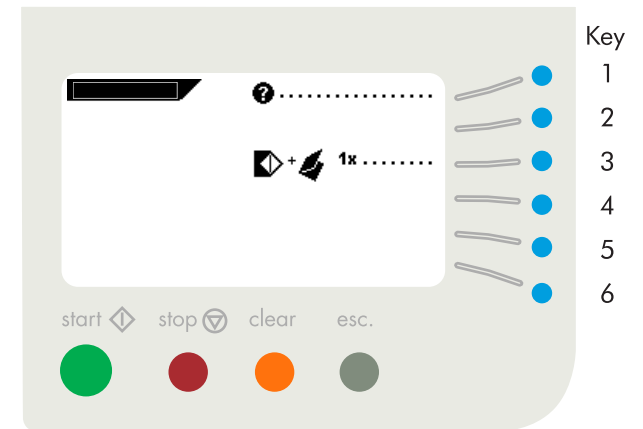

Fig. 25
After pressing key 5 in the "main menu (1)", the "AutoSet™" menu is displayed (fig. 25). The AutoSet™ function can be used for creating simple jobs. The machine automatically recognizes the document size, envelope size and necessary fold settings.
Press key 3 to start a testset run (fig. 25). The machine prepares a job which is named "AutoSet™".